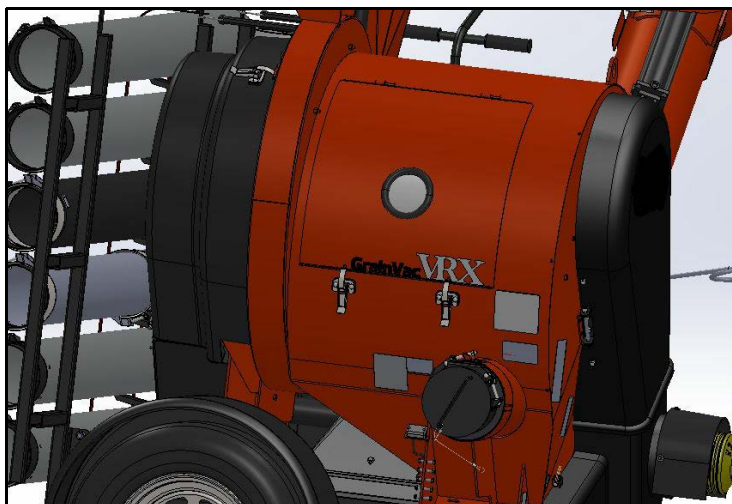

Figure 7.1 Inspection Door Closed
3. Open the inspection door (from Figure 7.1 to 7.2).
Air leak at inspection door or clean-out door	Ensure body inspection door and auger clean-out door are fully closed (see Figures 7.1 & 7.3).